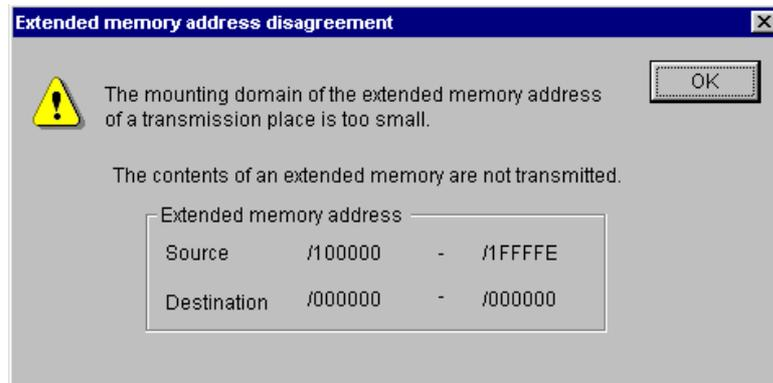

Figure 3-15 [Extended memory address disagreement] Window
- (1) If the error message window shown in Figure 3-15 is displayed during the restore process, the extension memory information is not loaded.